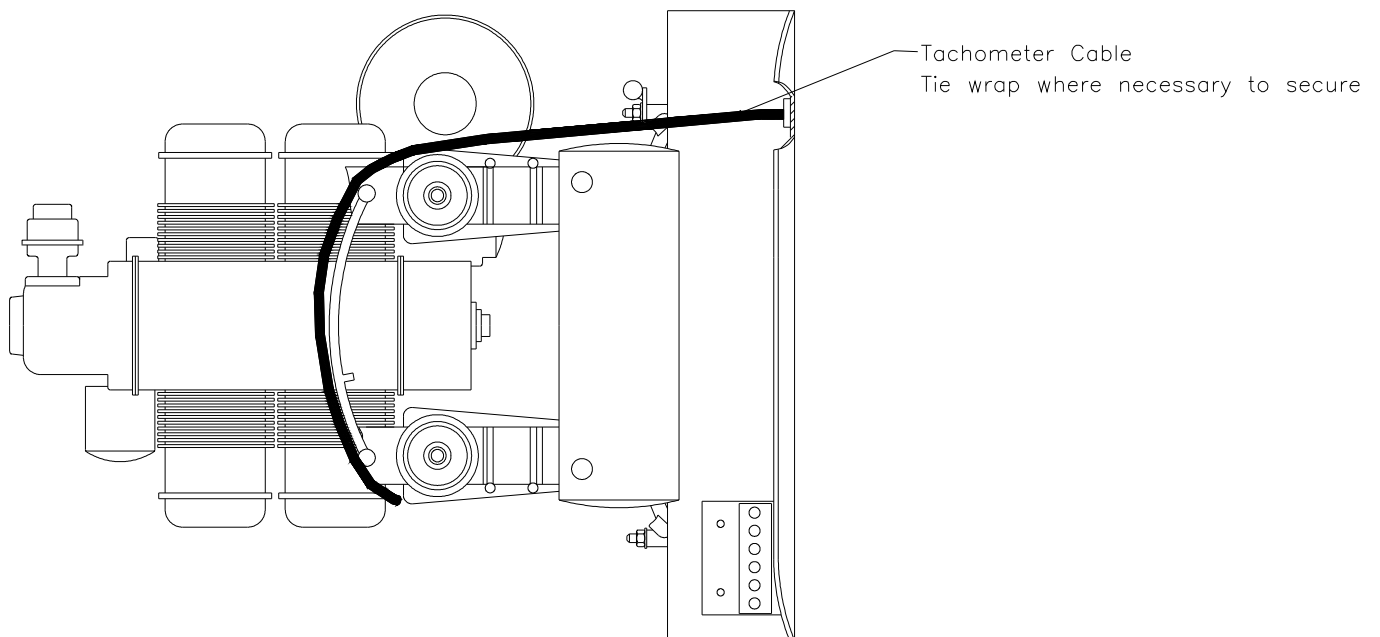

Figure 4
- 10.8.** Install the new Superior Labs tachometer cable following the removed cable's routing, reference figures 4 and 5. Place the fire sleeve on the engine end of cable. Reference figure 5. Tie wrap where necessary to secure.
- 11.12. Install the new Superior labs tachometer cable following the routing shown in figures 4 and 5. Place the firesleeve on the engine end of cable. Reference figure 5. Tie wrap where necessary to secure.